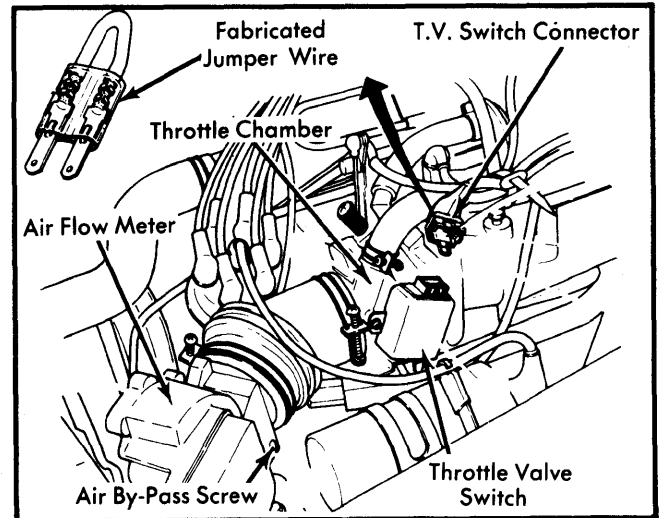

Fig. 4 Idle Mixture Adjustment (CO%) (280ZX Shown - 810 Similar)
4) Check ignition timing and reset idle speed screw to obtain 700 RPM. Connect a jumper wire between throttle valve switch harness connector terminals No. 24 and No. 30. See Fig. 4.